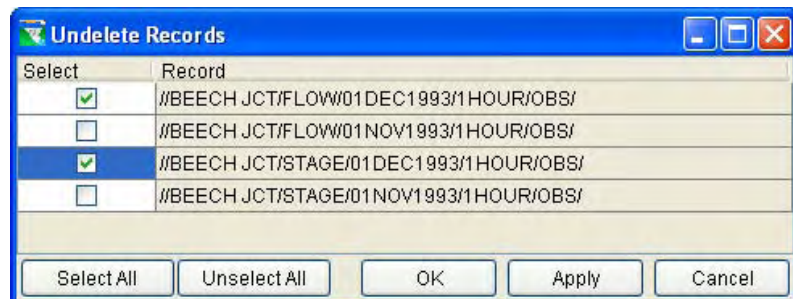

Figure E.24 Undelete Records through Selection Dialog
4. If you choose **Selected...**, a list of pathnames that you can undelete will appear (Figure E.24). Check the boxes of the records that you want to undelete, or press the **Select All** button to undelete all records in the list. You can unselect the checked records by pressing the **Unselect All** button.